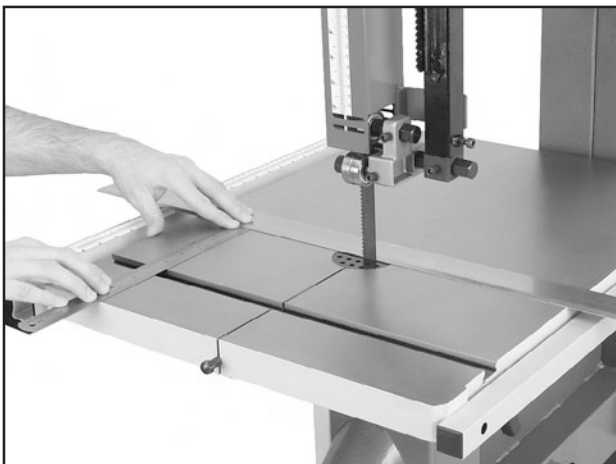

Figure 47. Measuring for miter slot to be parallel with blade.
5. Use a fine ruler to gauge the distance between the straightedge and the miter slot. The distance you measure should be the same at both the front and the back of the table (see **Figure 47**).